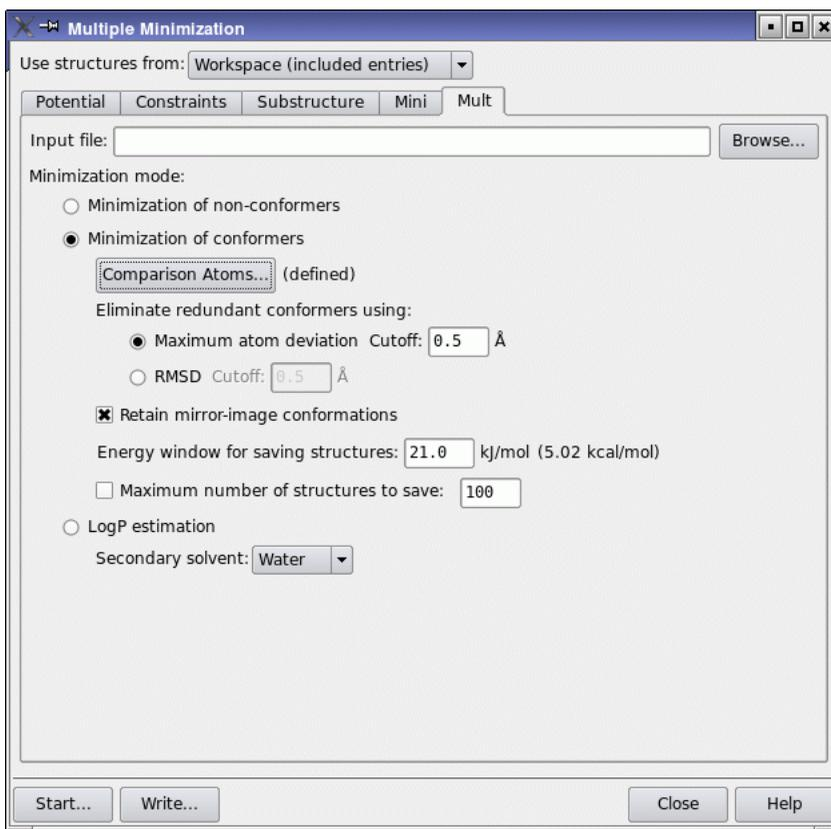

Figure 3.6. The Multiple Minimization panel showing the Mult tab.
7. Choose `Project Table (selected entries)` from the Use structures from option menu (see Figure 3.6).